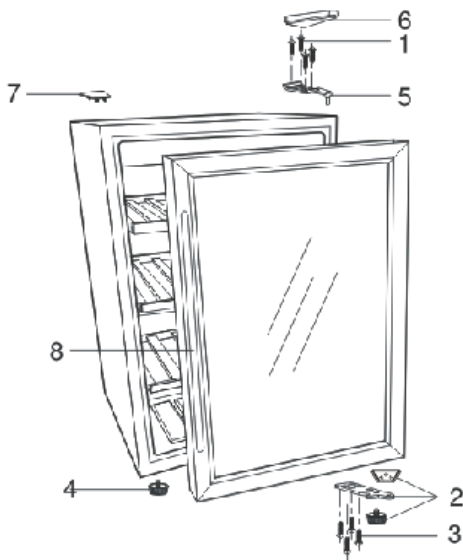

Fig. 1
- Remove the upper hinge cover (Fig.1: No.6).
- Remove the screws (Fig.1: No.1) that secure the upper hinge (Fig.1: No.5) to the frame. Remove the upper hinge (Fig 1: No. 5).
- Remove the screws (Fig 1: No.3) that hold the lower hinge, front leg and door stopper (Fig.1: No.2). Remove the lower hinge, front leg and door stopper (Fig. 1: No.2).
- Remove the front leg (Fig. 1: No. 4) and transfer to opposite side.
- Remove the handle (Fig. 1: No. 8) and install to the opposite side of door. (See Changing the Handle section on page 10).